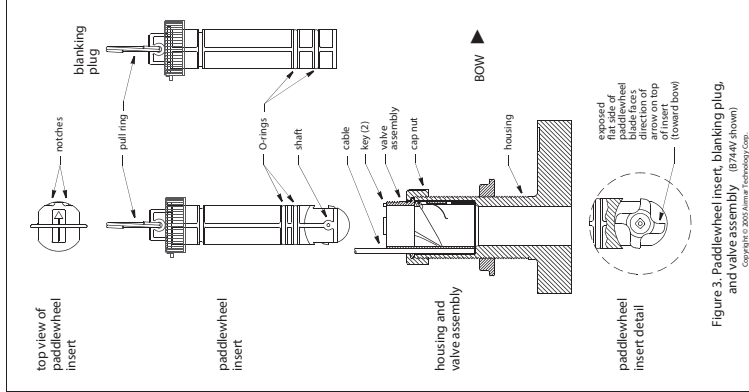

Figure 3. Paddlewheel insert, blanking plug, and valve assembly (B744V/VL shown)
1. After the sealant cures, inspect the O-rings on the paddlewheel insert (replace if necessary) and lubricate them with the silicone lubricant supplied (Figure 3). The O-rings must be intact and well lubricated to make a watertight seal.
The multisensor incorporates a self-closing valve which minimizes the flow of water into the vessel when the paddlewheel insert is removed (Figure 3). The curved flap valve is activated by both a spring and water pressure. Water pushes the flap valve upward to block the opening, so there is no gush of water into the boat.
1. On the blanking plug, inspect the O-rings (replace if necessary) and lubricate them with silicone lubricant or petroleum jelly (Vaseline®). Figure 3. The O-rings must be intact and well seated. Do not over-tighten.
4. Slide the blanking plug into the housing. Seat it into place with a pushing twisting motion until the keys fit into the notches (Figure 3). Screw the INSERT nut in place and hand-tighten only. Do not over-tighten.
1. On the blanking plug, inspect the O-rings (replace if necessary) and lubricate them with silicone lubricant or petroleum jelly (Figure 3). The O-rings must be intact and well lubricated to make a watertight seal.
3. Separate the paddlewheel insert from the valve assembly by unscrewing the INSERT nut (Figure 3). Grasp the pull ring and pull slowly upward.
5. To reinstall the valve assembly, inspect the O-rings on the paddlewheel insert (replace if necessary) and lubricate them with silicone lubricant or petroleum jelly (Figure 3). The O-rings must be intact and well lubricated to make a watertight seal.
1. Using the new paddlewheel shaft, push out the old shaft about 6 mm (1/4"). With pliers, remove the old shaft (Figure 3).